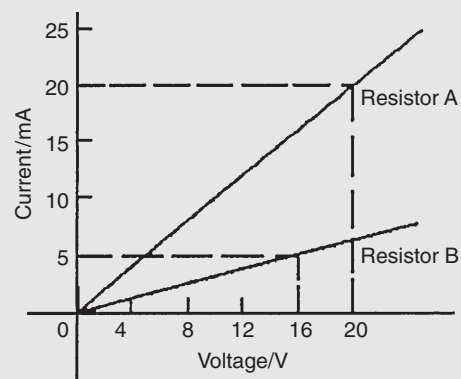

Figure 2.8
**Problem 8.** The current/voltage relationship for two resistors A and B is as shown in Fig. 2.8. Determine the value of the resistance of each resistor.